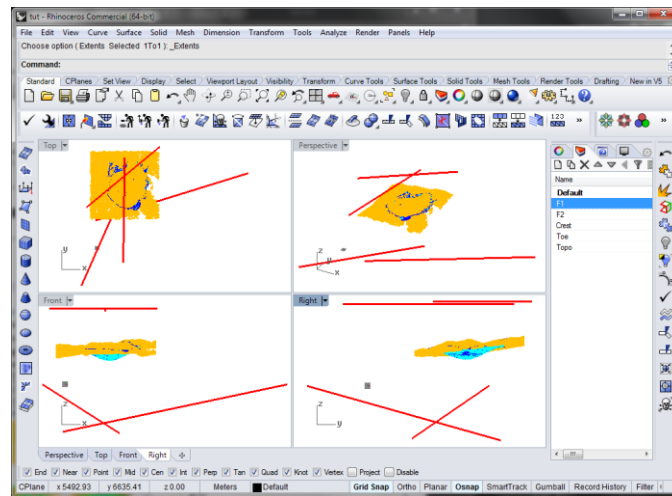

Figure 137: Rhino views after importing open_pit.dxf.
2. **File|Import open_pit.dxf**. Use **Model units: Meters**, **Layout units: millimeters** and **Mesh Precision: Double Precision** (Figure 137).